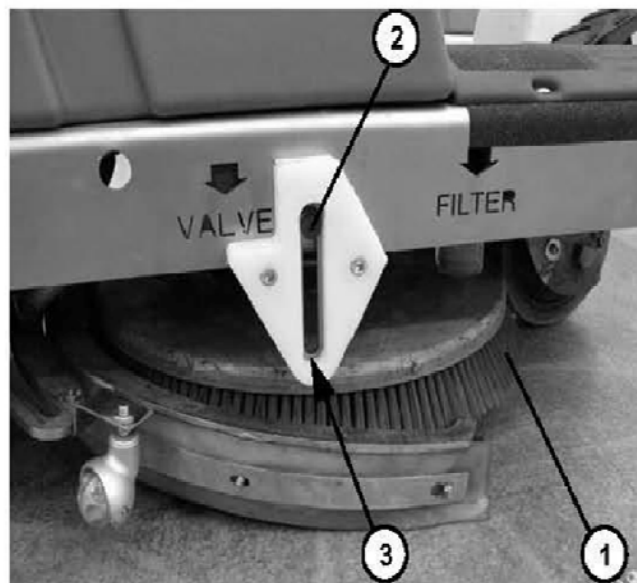

Figure 7-1
2. Wash and clean the disc brush (1, **Figure 7-1**) of dirt and debris; use water and detergent solution.
4. The disc brush must be replaced due to excessive wear, when in the condition of brush lowered, the side pins (2, **Figure 7-1**) rest on the lower ends (3) of the slots.